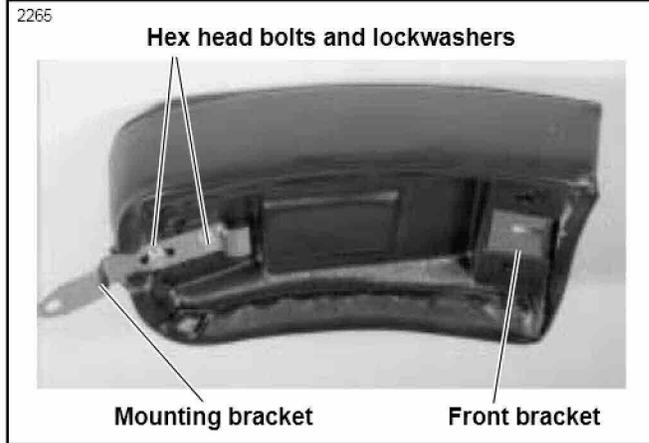

Figure 1. Seat Mounting Bracket Installation
1. See Figure 1. Attach the rear seat bracket to the bottom of the pillion seat using the two 1/4-20 x 5/8 in. hex head bolts and two 1/4 in. lockwashers provided. Be certain the bracket is mounted in the correct position, as shown. Tighten bolts to 6 ft-lbs torque.
6. Turn screw only a few turns into weldnut or retention nut to hold assembly in place. This will allow room for the slotted front bracket on the pillion seat (see Figure 1) to slide into position.